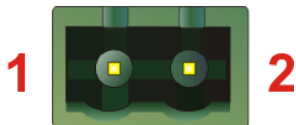

Figure 3-18: Power Input Connector
- CN Pinouts:** See **Table 3-14** and **Figure 3-18**